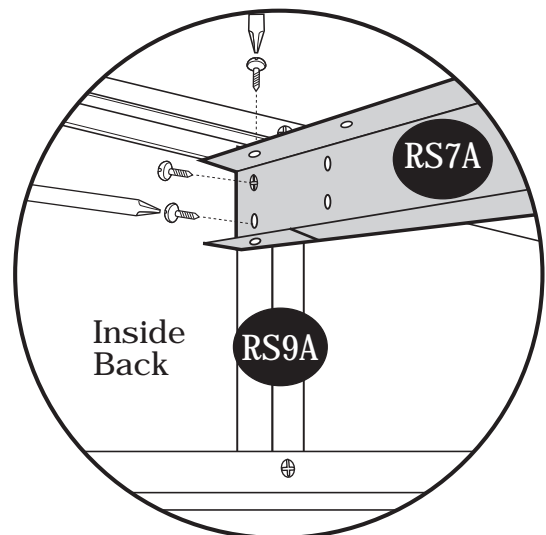

fig.2
25. Attach the roof structures (RS4A) to (RS5A), (RS6A) assembly and (RS5A), (RS7A) assembly and (RS3LA), (RS3SA) with (S1) screws. See (fig.1) (fig.2) (fig.3) and (fig.4)